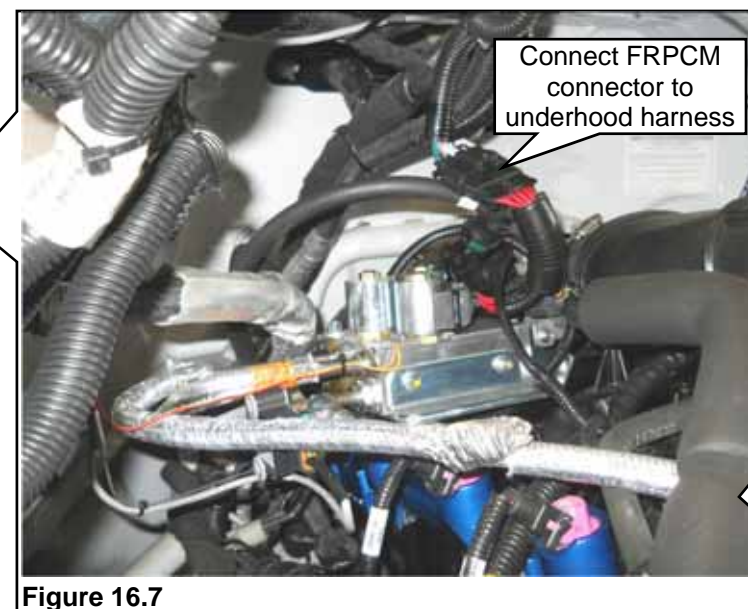

Figure 16.7
16. Make the CAN bus harness and the FRPCM harness breakout connections to the underhood harness. **Figure 16.7 and 16.8.**